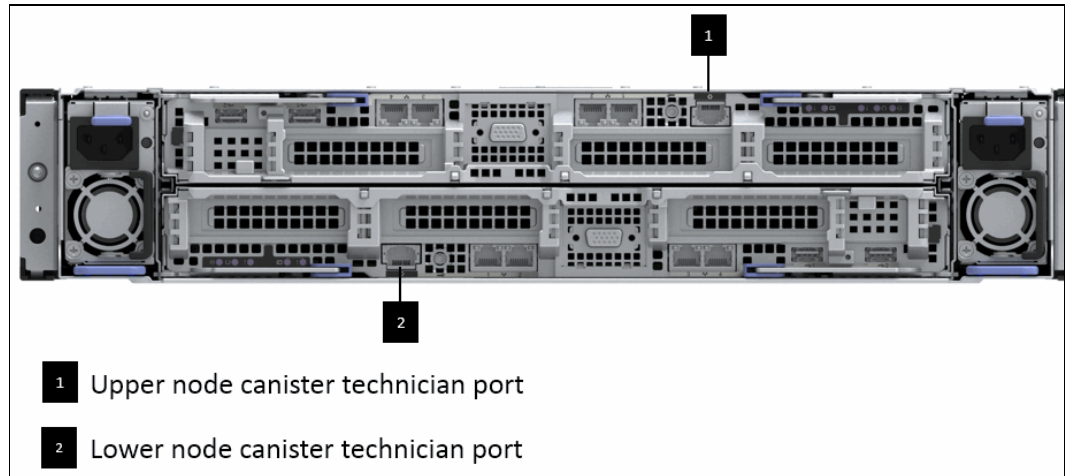

Figure 6-45 Control enclosure technician ports
2. Connect the your laptop’s ethernet port to the technician port of the upper node canister in the control enclosure. See Figure 6-45 on page 201.